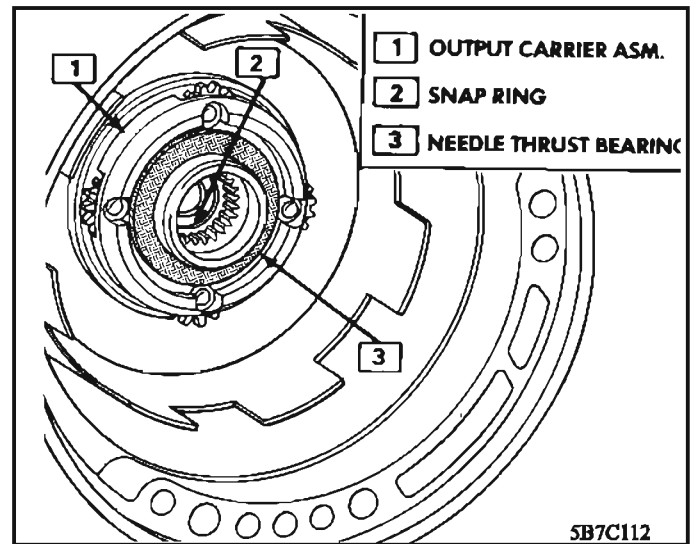

Figure 89 Output Carrier Needle Bearing
2. Install input ring gear to output carrier needle thrust bearing lip side face down. *See Figure 89.*
3. Install output carrier to output shaft snap ring. Use new snap ring and do not over stress on installing. *See Figure 89.*